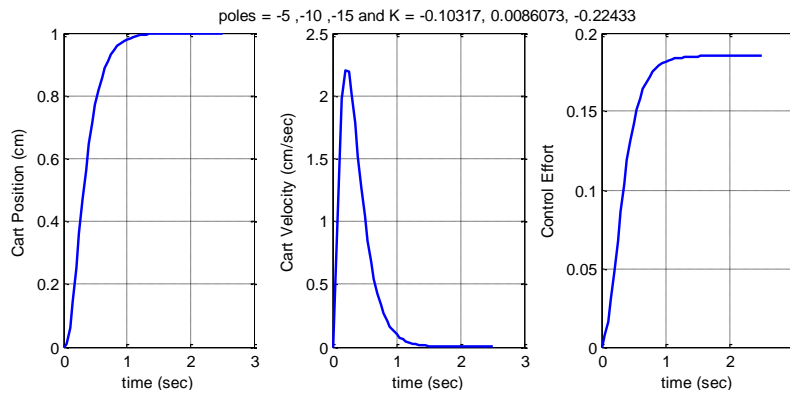

Figure 2: Initial results for the 1 DOF system with integral control
- 7) Modify **sv1_integral_driver.m** to plot the two states and the control effort. Set the step amplitude to 1.0, the final time to 2.5 seconds, place the poles at -5, -10, -15, and run the simulation. You should get results like those shown in Figure 2.